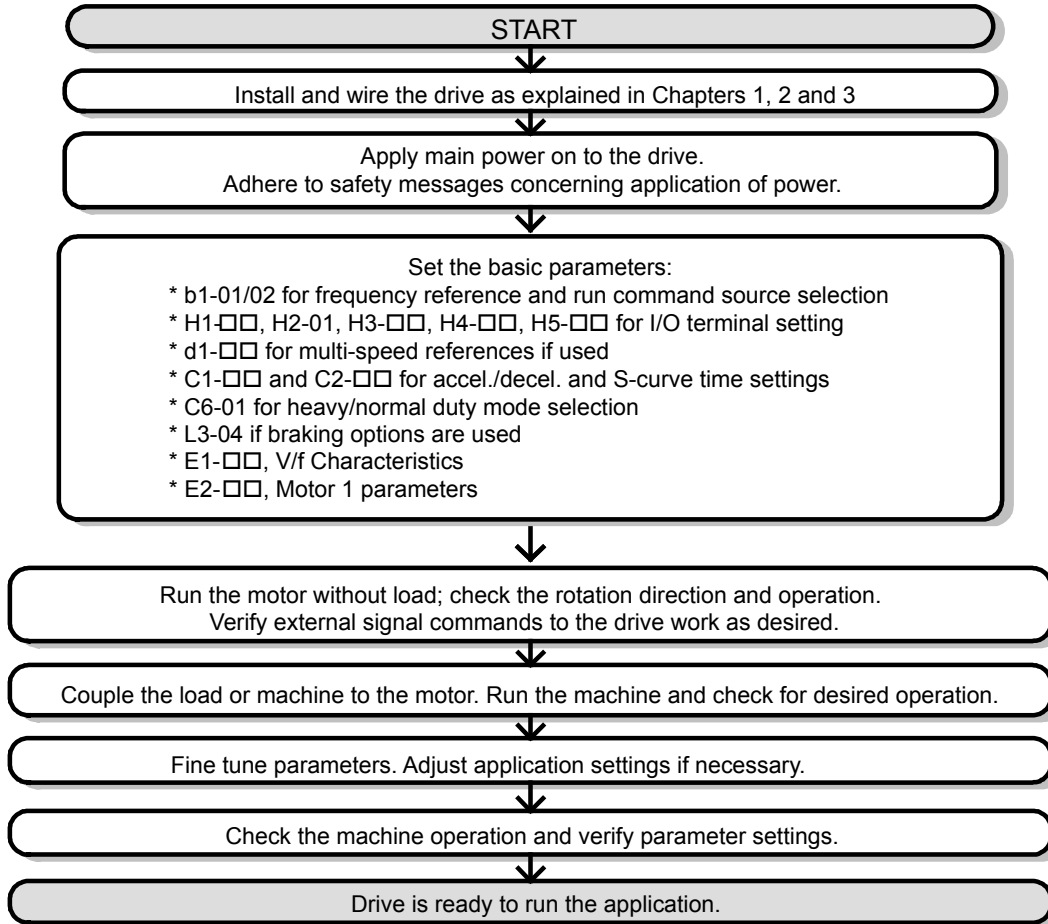

Figure 4.6 Basic Start-Up
*Figure 4.6* describes basic start-up sequence for the drive and motor system. This sequence varies slightly depending on application. Use drive default parameter settings in simple applications that do not require high precision.